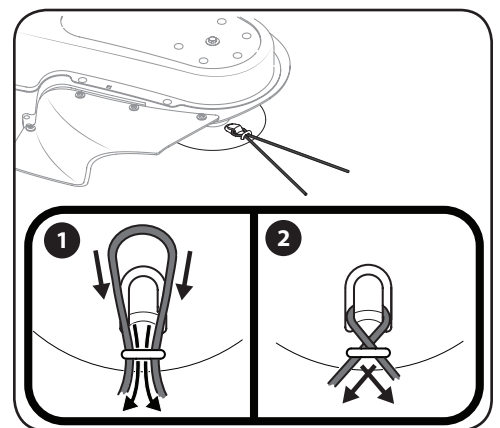

Figure 3-3
4. Cross the line ends and pull each tightly to secure the trimmer line in place. See Figure 3-3.